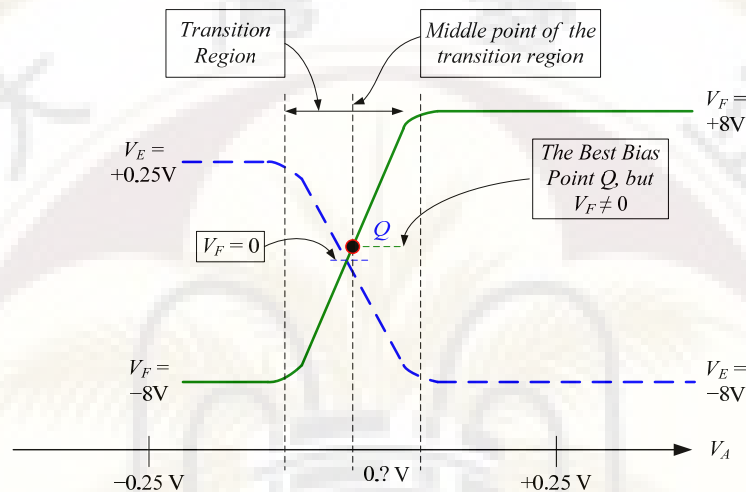

Fig. 7 DC-Sweep diagram
*Homework #1:* Apply the measured data from the above table to the editing software such as EXCEL and MATLAB, and illustrate the *DC-sweep diagram* similar to Fig. 7 with marking the corresponding voltage. Try to calculate the *slope rate* of the diagram in the transition region.